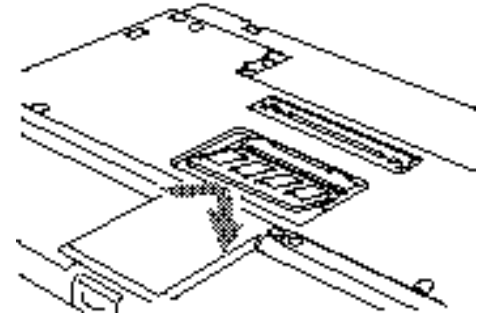

Figure 4-14 Installing a Memory Upgrade Module
7. Align the connector edge of the memory upgrade module with the connector slot in the compartment. The notch on the module should be on the right with the part side up and the connector pointing towards the back of the notebook and aligned with the notch in the connector inside the compartment. (Figure 4-14.)
8. Insert the memory upgrade module at a 45° angle. (Figure 4-14.) Press the connector edge of the module firmly down and into the connector.
2. Pull clips sideways from each side of the memory upgrade module. (Figure 4-14).